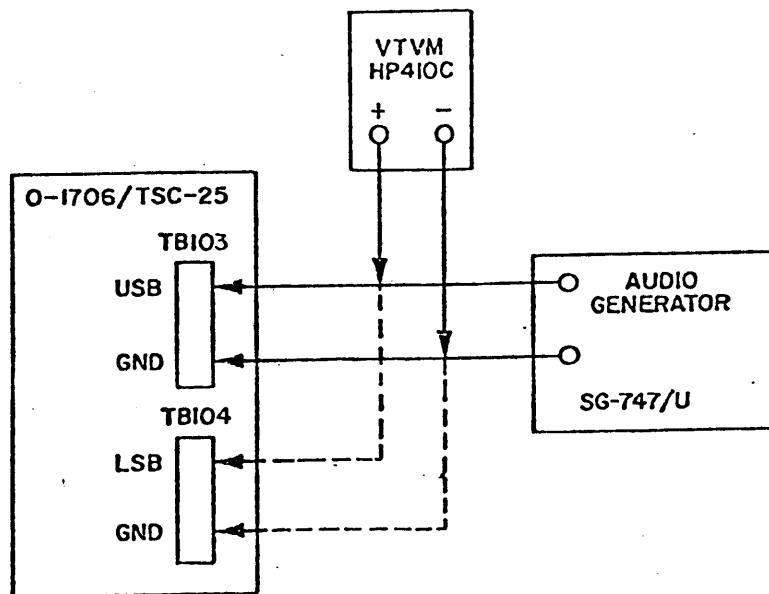

Figure 5-4. Sideband generator, test setup.
(e) Connect audio generator, with one side grounded, to USB terminal board TB103-1, -2, -3 on rear panel of Exciter as shown in figure 5-4.
- (o) Connect audio generator, with one side grounded, to LSB terminal board TB104 on rear panel of Exciter (fig. 5-4).